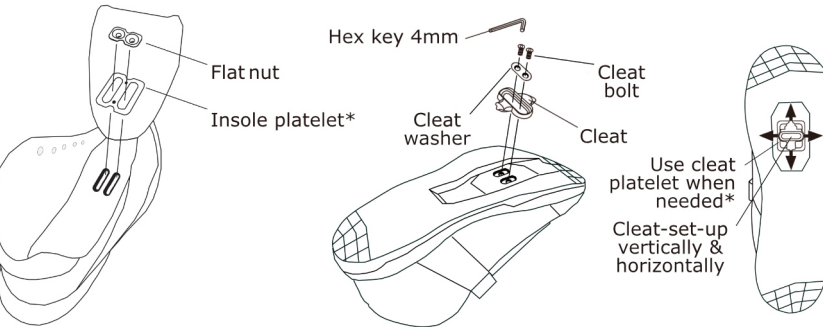

Figure 2:
- Click-in is too difficult or impossible: Attach the cleat platelet under the cleat (see Fig. 2).